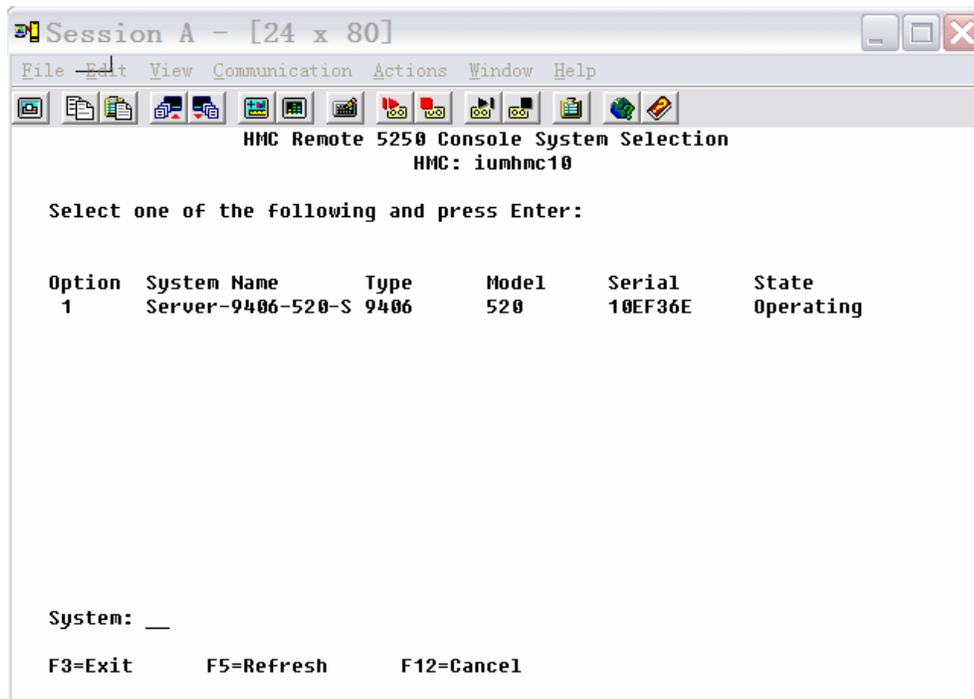

Figure 2-8 Remote 5250 console - select management server
- When the window in Figure 2-8 prompts you, select the management server that you want to access.